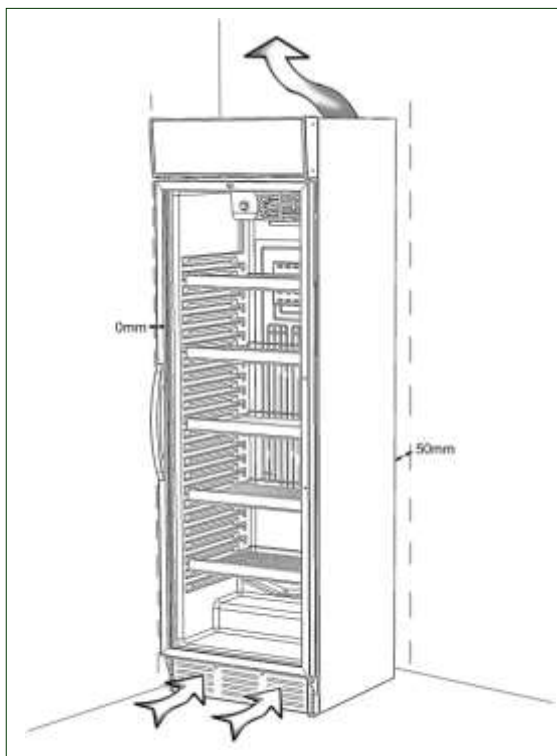

Fig. 4
- Stand-alone installation against a wall or in a corner (fig. 4)